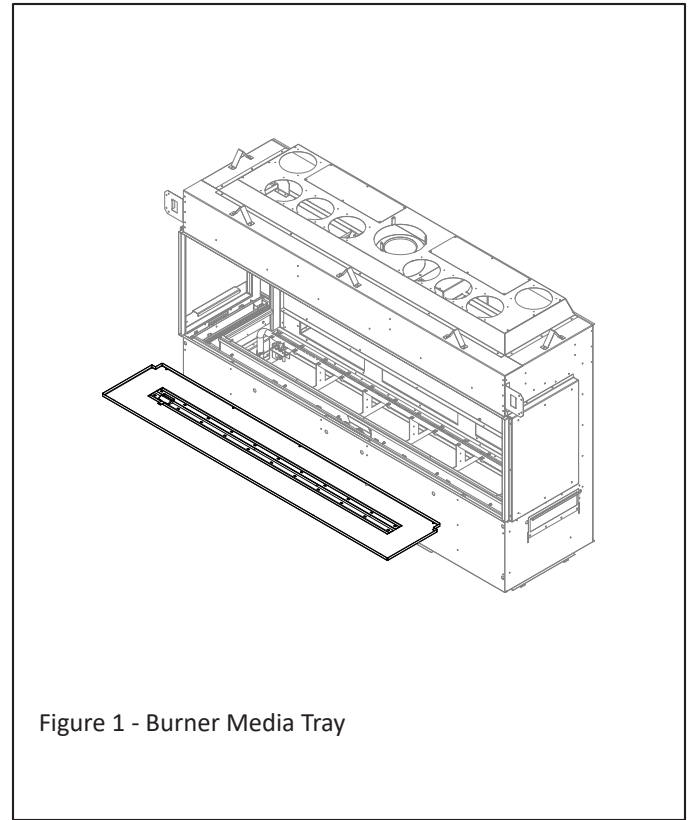

Figure 1 - Burner Media Tray
3. Remove media tray, and burner tube. Refer to Figure 1 for burner identification.